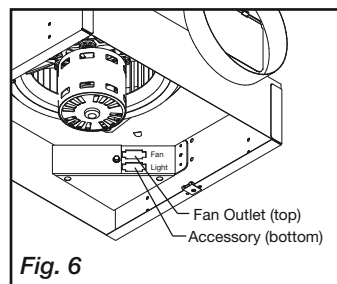
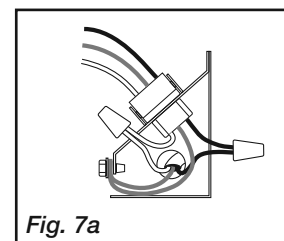
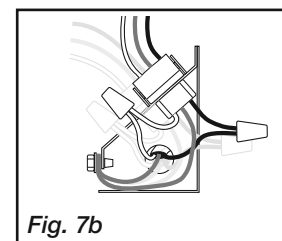

Fig. 6
Fig. 7a
Fig. 7b
1. Remove wiring cover. If fan/accessory combination is being used, make sure the fan plug is connected to the fan receptacle and the accessory plug is connected to the accessory receptacle, shown in Fig. 6. Using proper wire connectors, wire the fan as shown in Fig. 7a. For wiring of light proceed to Fig. 7b.